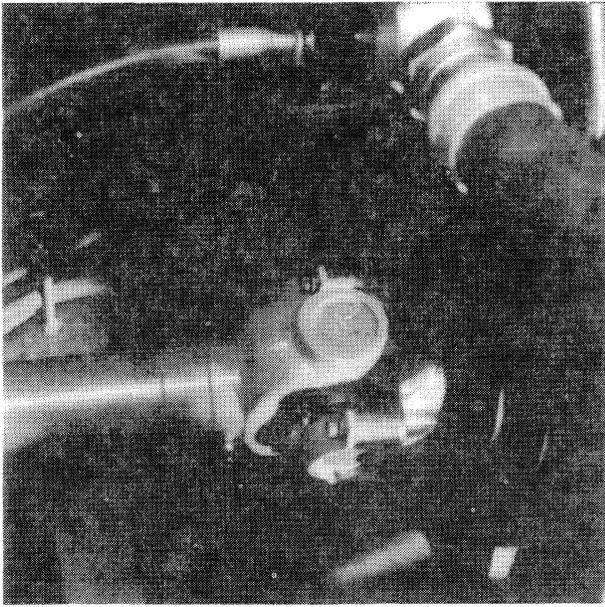

FIGURE 2-13: PTO Driveshaft Removal
16. Disconnect PTO driveshafts from splitter box (Figure 2-13).
7. Connect PTO driveshaft. Ensure it is correctly phased (Figure 2-13). Torque journal strap cap-screws to 35 N.m (26 lbf ft).